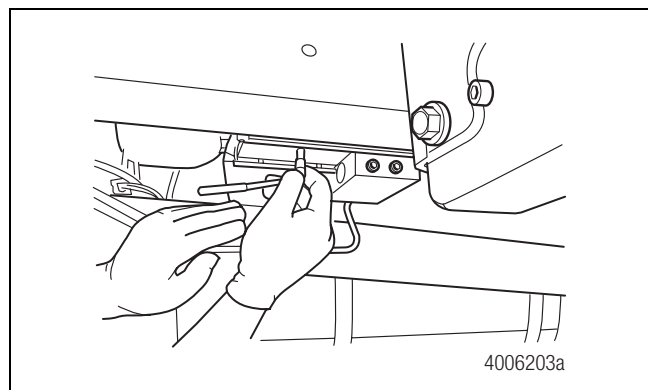

Figure 4.31
10. Use a 6 mm hex-head socket wrench to remove the pump retaining plug from the HCU cavity. To minimize fluid spill, keep the replacement pump within reach and prepared for installation. Figure 4.31.